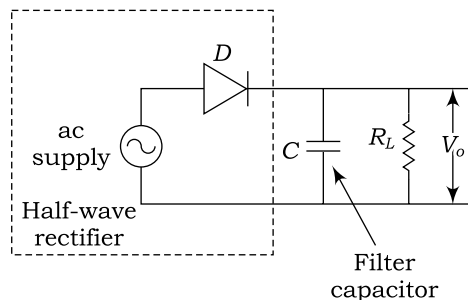
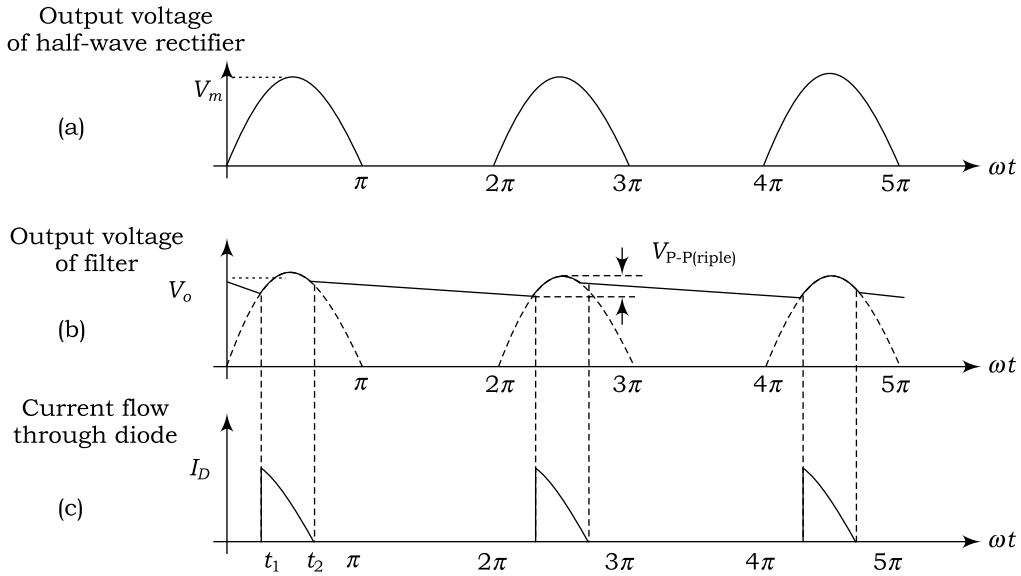

Fig. 1.3 Half-wave rectifier with capacitor filter
Fig. 1.4 (a) Output voltage of half-wave rectifier (b) Output voltage of filter (c) Current flow through diode
Figure 1.3 shows a *capacitor filter* circuit which contain a capacitor (C). The capacitor is connected in parallel to the rectifier output voltage and load resistance R_L . When a pulsating dc voltage is applied across the capacitor, the capacitor filter removes the voltage ripples upto a certain extent. If a half-wave rectifier output voltage is fed to a capacitor filter, the resulting output voltage is better than half-wave rectifier output voltage as shown in Fig. 1.4.
During the negative half-cycle of input ac voltage, output voltage of the rectifier is zero. Therefore, in the negative half-cycle, the capacitor discharges through the load resistance. The discharging time constant is $R_L C$. With increase in the time constant, discharge voltage of the capacitor will be less. Practically, the discharging time constant is about 100 times larger than charging time. As the capacitor has less time to discharge, it can maintain a constant voltage across the load resistance R_L as shown in Fig. 1.4.